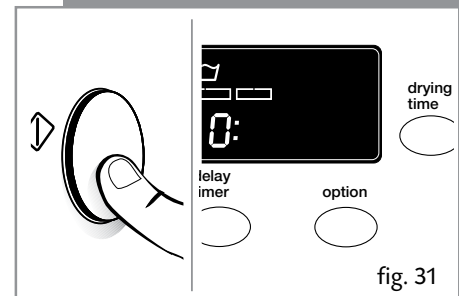

fig. 31
- The lock function is cancelled when the wash programme comes to an end (Figure 31).